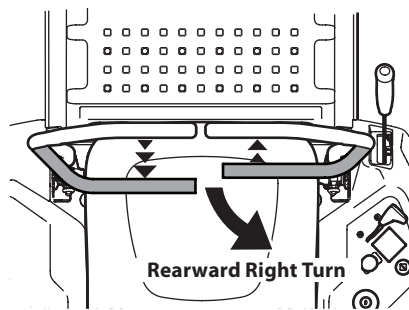

Figure 33
2. To turn to the right while traveling in reverse, move the right drive control lever forward of the left drive control lever. See Figure 33.